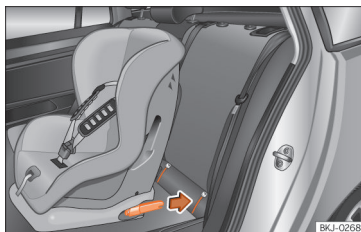

Fig. 27 Rear seats: fitting a child seat with the ISOFIX system.
- Press the child seat onto the “ISOFIX/iSize” retaining rings until the child seat is heard to engage securely » **Fig. 27.** If the child seat is